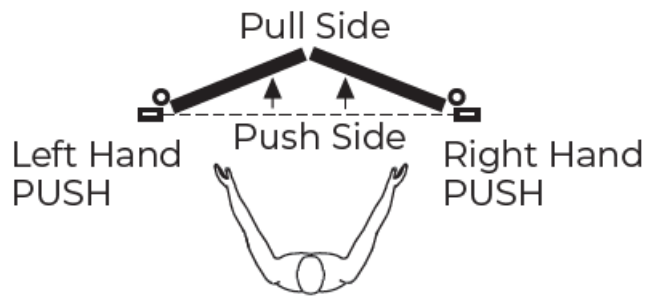

Figure 1
1. Determine right-hand or left-hand installation. (Figure 1)